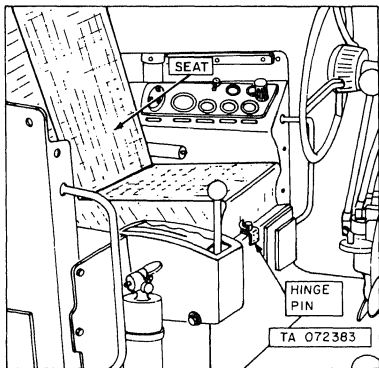

Figure 4-50.1 Seat assembly.
a. *Removal.* Remove two hinge pins and remove the seat from the grader. Refer to figure 4-50.1.
Figure 4-50.1 is superseded as follows: